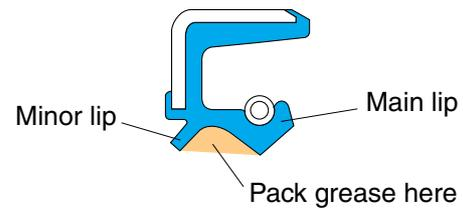

Fig. 1.7.1 Prelubrication for seals with minor lip
- 2) Apply suitable, clean lubricant to the seal lip for initial lubrication. For oil seals with a minor lip, pack clean grease between main lip and minor lip (Fig. 1.7.1).